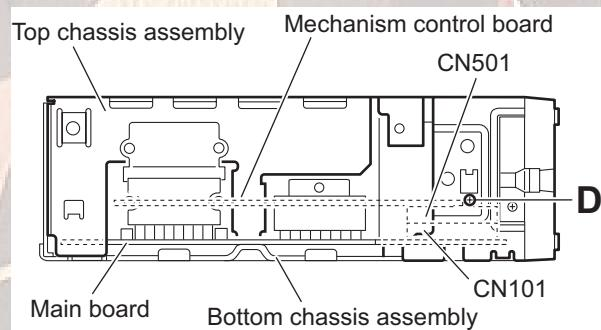

Fig.5
- Lift the top chassis assembly in the direction of the arrow, and disconnect the connector **CN501** on the mechanism control board from the connector **CN101** on the main board. (See Figs.5 and 6)